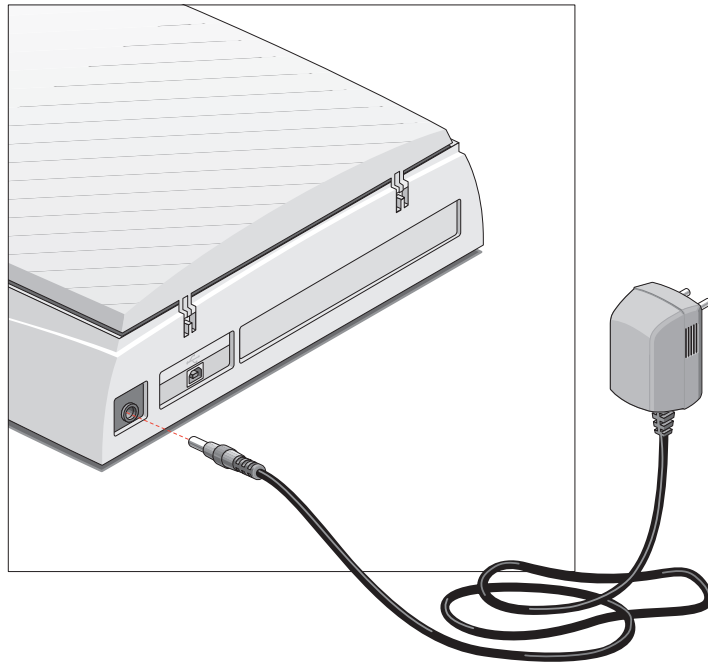

Figure 1
1. Connect the plug of the AC adapter to your scanner (Figure 1).